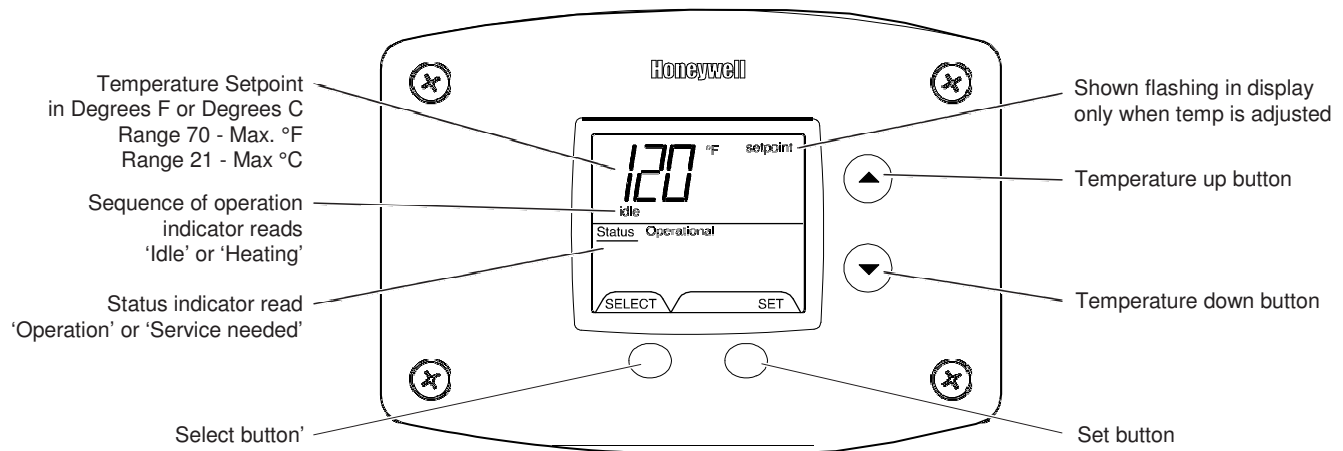

Fig. 12
4. Set the desired temperature by following Fig. 12 to 18 on pages 26 & 27.